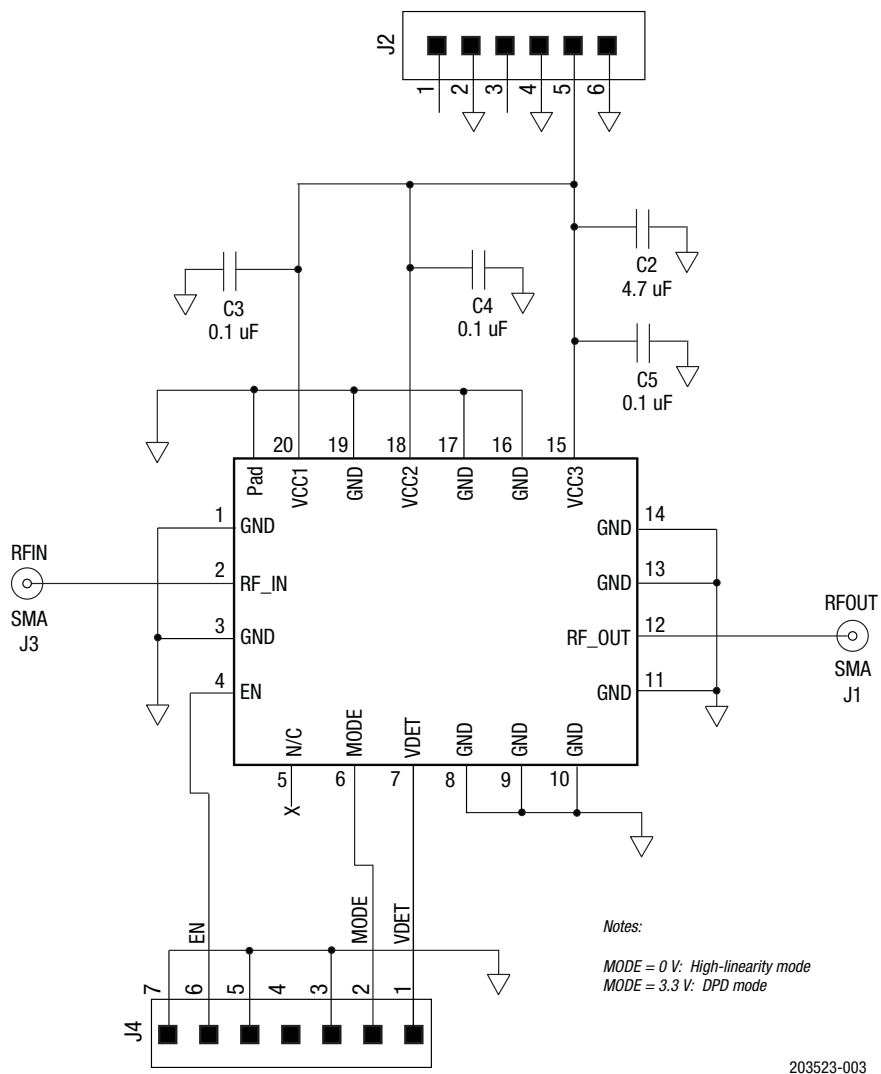
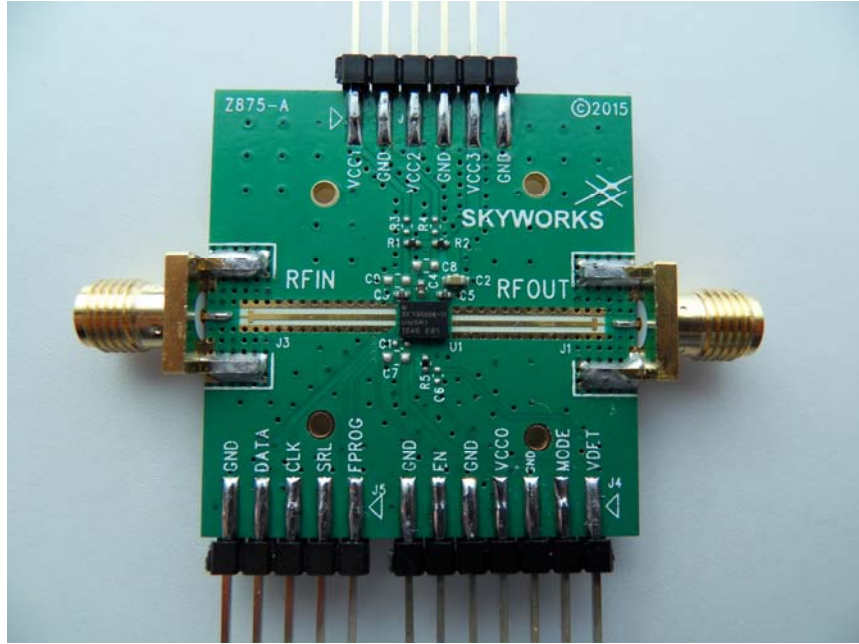

Figure 3. SKY85006-11 Evaluation Board Schematic Diagram
Figure 4. SKY85006-11 Evaluation Board
The SKY85006-11-EK1 Evaluation Board is used to test the performance of the SKY85006-11 PA. A typical application schematic diagram is provided in Figure 3. Table 9 provides the Bill of Materials (BOM) list for Evaluation Board components. A photograph of the Evaluation Board is shown in Figure 4.
- Bypass capacitors should be used on the DC supply lines. An RF inductor is required on the VCC supply line to block RF signals from the DC supply. Refer to the schematic drawing in Figure 4 for further details.